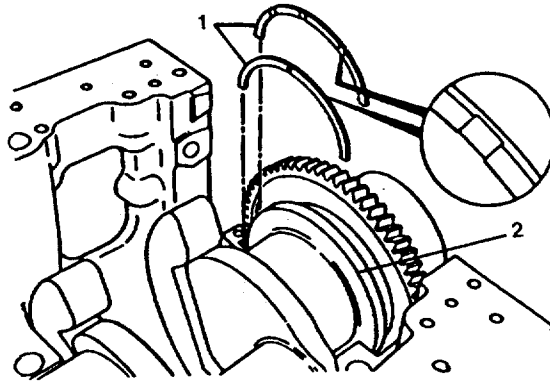

FIGURE 4-57. Crankshaft Thrust Bearing Removal/Installation.
- f. Remove and mark thrust bearings (1, FIG. 4-57).
- e. Lubricate the thrust bearings (1, FIG. 4-57); position with the grooved side of the face toward the crankshaft thrust flange (2) one on either side of flange and slide them into place in the thrust bearing retainer.